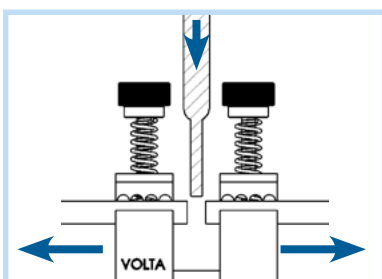

Fig. 13
5. Open the Pliers to maximum gap and place the welder's tip between the belts edges (Fig. 13).